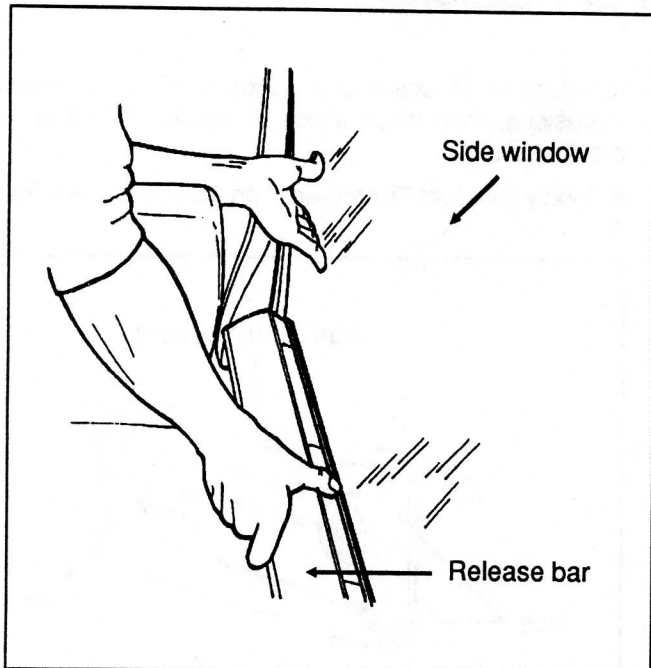

Figure 2
12. From inside vehicle, lift aluminum release bar and push bottom of window to open each of the 7 (8 on 96" vehicles) emergency exit side windows. See figure 2.